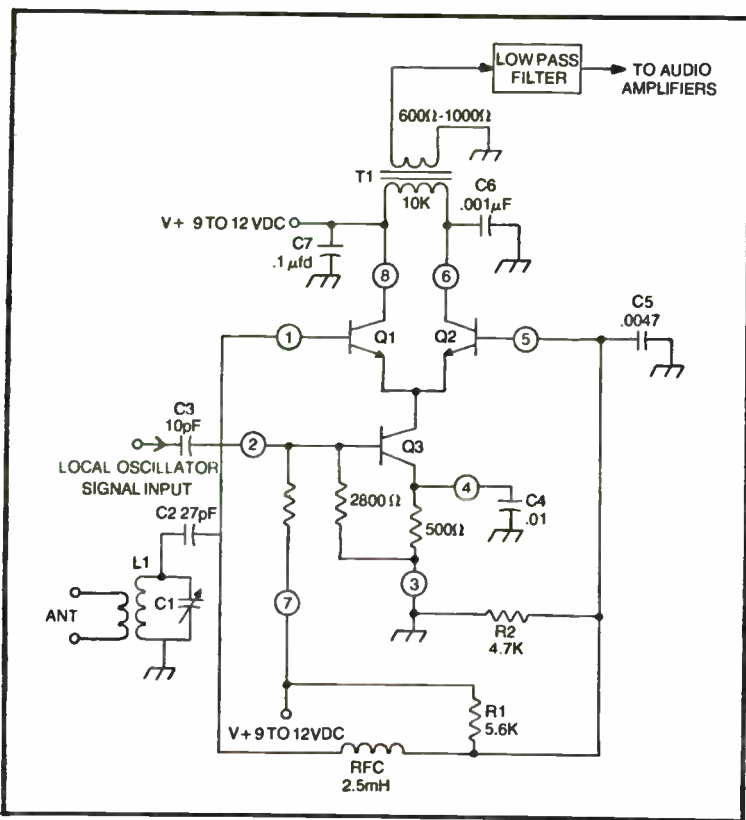

Fig. 2-4. Direct conversion radio receiver.
A simplified *direct conversion* receiver is shown in Fig. 2-4. This circuit is sometimes confused with the superheterodyne because it causes a local oscillator to beat against the rf signal. The principle difference between the direct conversion and superhet methods is that the local oscillator in the direct conversion receiver operates on the received frequency. You should recall that the local oscillator (LO) in the superhet operates on a frequency different from the rf frequency by a factor of  $\pm$  the intermediate frequency.
The direct conversion receiver circuit of Fig. 2-4 is based on a bipolar transistor *differential amplifier*. Although discrete transistors can be used, it is somewhat easier to use an IC high-frequency differential amplifier such as the RCA CA3028 device (or equivalent). The pinouts shown in the circuit of Fig. 2-4 are for the CA3028 IC diff-amp. The unnumbered resistors (those in which only values are shown) are internal to the CA3028, so do not connect them if you duplicate this circuit. The actual operation of differential amplifier is covered in a later chapter, so will not be discussed here, except in the most general terms.